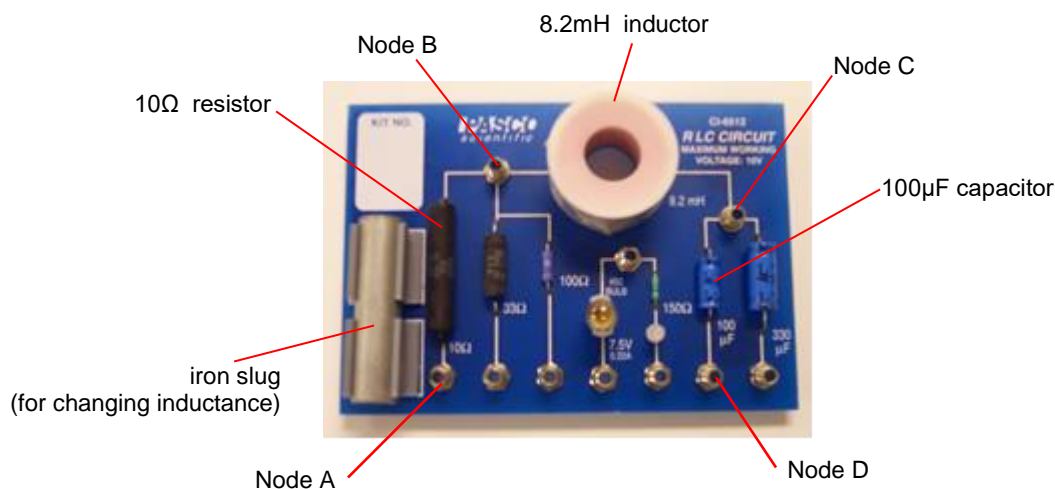

Figure 5
11. **RESISTOR:** Leaving the source voltage connected as is, move the voltage probe leads so you can measure the voltage across the resistor alone. Leave the black lead connected to Node A. Move the red lead to B. (Fig 5.). Monitor for a few seconds.